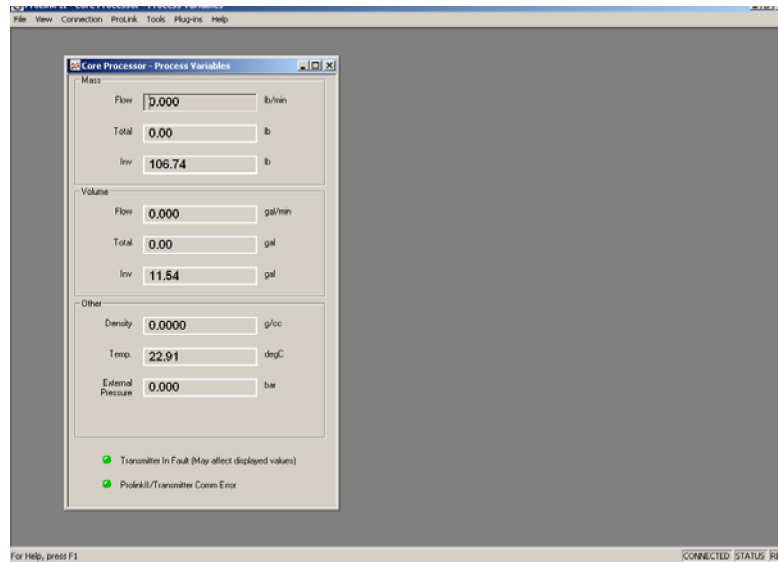

FIGURE 5.4
6. Power down the meter/E4000; wait 10 seconds, then power up again by starting the truck (the truck engine must be running from this point on). Within 3-8 seconds after powering up the meter, click on *Connect*, and the Process Variables (See Figure 5.4) screen should appear. If you receive the message "Modbus Server not found", you likely have not specified the correct Com Port, and if you receive the message "Failed to establish connection with the requested device", you either did not power the system down then back on again and click on *Connect* within 3-8 seconds, or there is a problem with the wiring connecting the computer to the puck. If the Process Variables window is displayed, and the *Transmitter in Fault* and *ProLink/Transmitter Com Error* lights are both green, you have successfully connected. Minimize the Process Variables window.